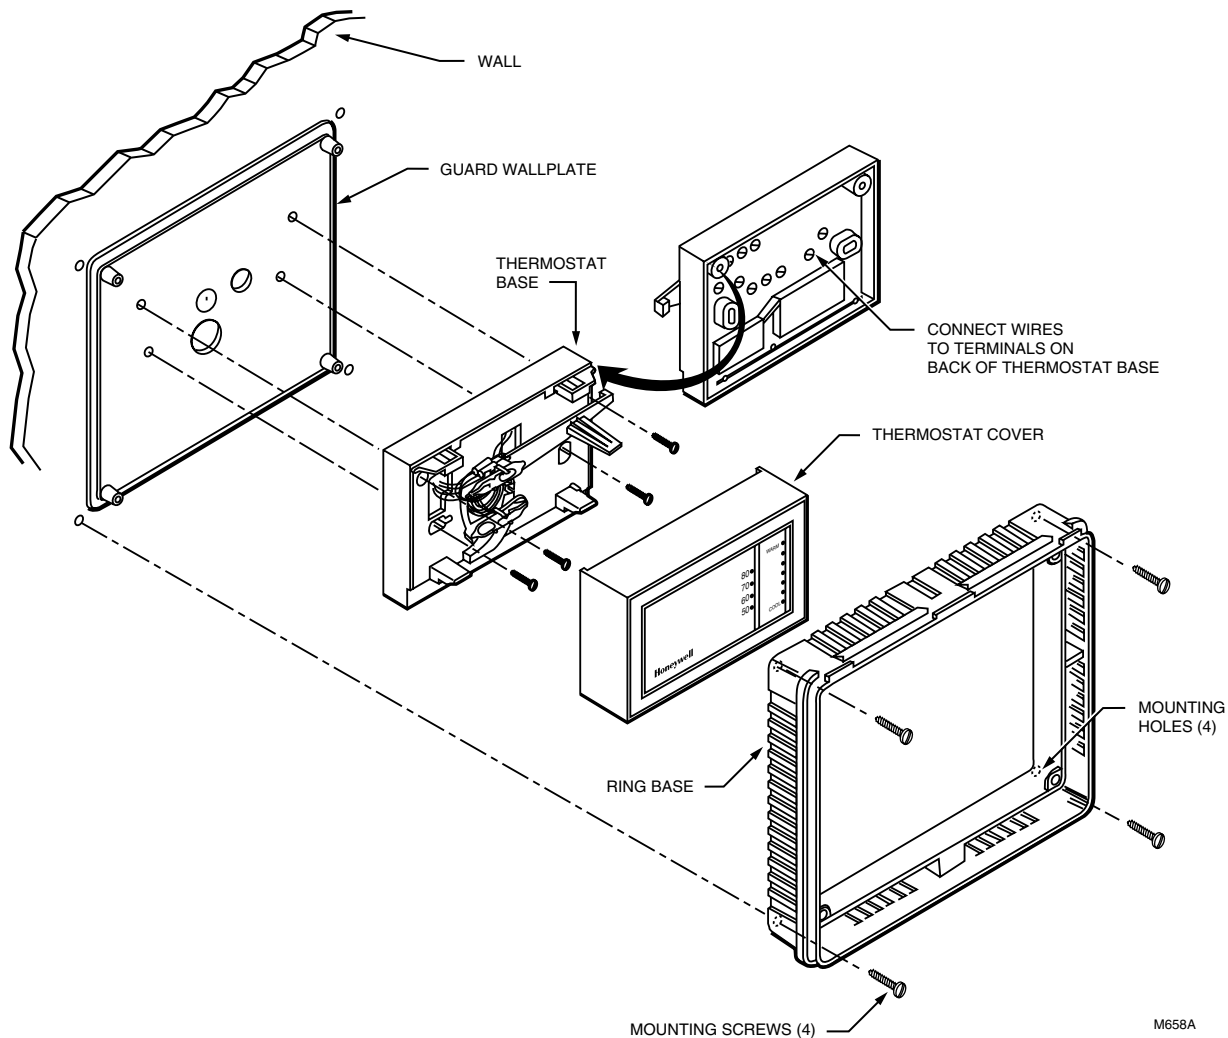

Fig. 11. Mount guard wallplate and ring base on back-wired thermostat.
Back-wired Thermostat (Fig. 11)
- 4 Mount the smooth side of the guard wallplate facing the thermostat and run the system wires through the wiring hole in the guard wallplate. The guard wallplate must be placed between the thermostat and the wall. See Fig. 11.